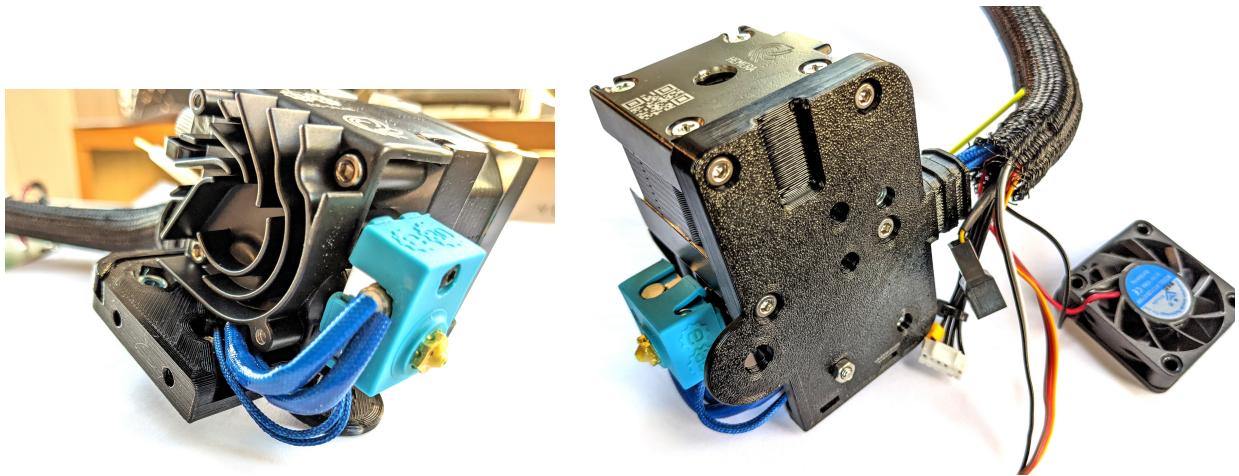

**Figure 1.6:** Place an M3 x 8mm screw into the hole in the cable channel, and secure it with a nut from the back
1. Put in one M3 x 8mm screw into the hole in the cable channel (see Fig. 1.6), since this will be difficult to access later. To make sure it stays while we are working on other steps, temporarily secure the screw from the back with a nut.